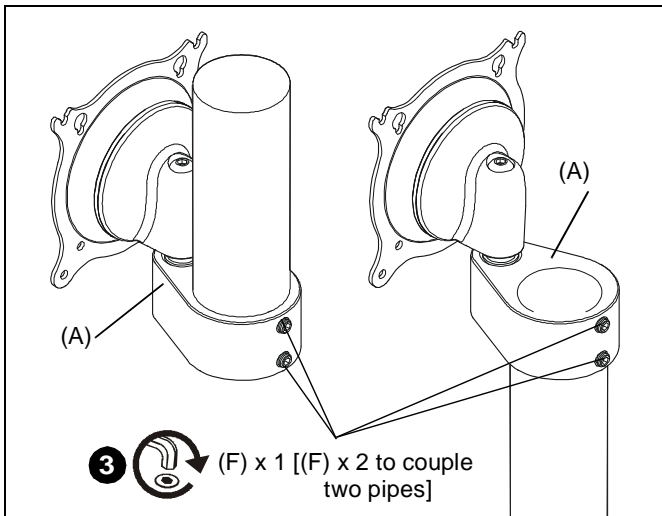

Figure 2
3. When FHS assembly (A) is properly positioned secure to 1-1/2" NPT pipe by installing and tightening 5/16-18 x 3/8" set screw (F) using 3/16" hex wrench (H). (See Figure 2)
**NOTE:** If mount is being used to couple two pipes, use both set screws when securing mount (A) to pipes.